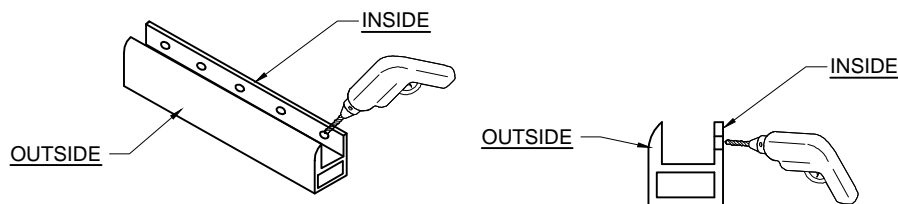

FIG.16
- A. If you are experiencing water build up in the top portion of the rail, it is recommended to drill small holes on the top inside portion. Space holes every 6"-8". Stay within 3" from the end of the rail. [SEE FIG. 16]